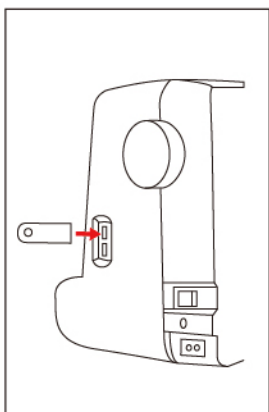

Figure 9
- (1) Import the patterns in format supported by this machine into USB disk. Then insert the USB disk into the USB interface of the machine in Figure 9